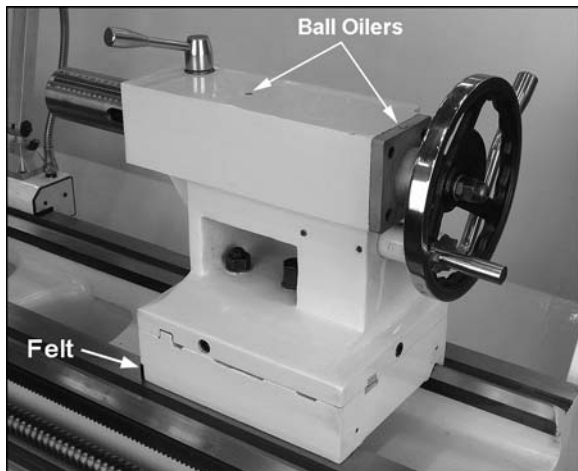

Figure 16 – Tailstock lubrication
15. **Tailstock** – Daily lubricate two ball oilers (Figure 16) on top of tailstock with SAE 20W oil.